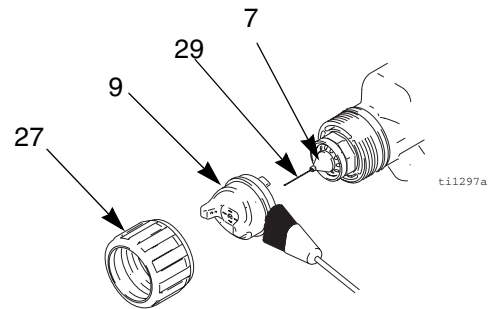

Fig. 16. Clean Air Cap and Fluid Nozzle
4. Remove the retaining ring (27) and air cap (9). See FIG. 16..
5. Clean the air cap (9) with the soft bristle brush and non-flammable solvent or submerge the air cap in solvent and wipe it clean.
6. With the gun pointing down, clean the fluid nozzle (7) and the front of the gun with a soft brush dampened with non-flammable solvent.